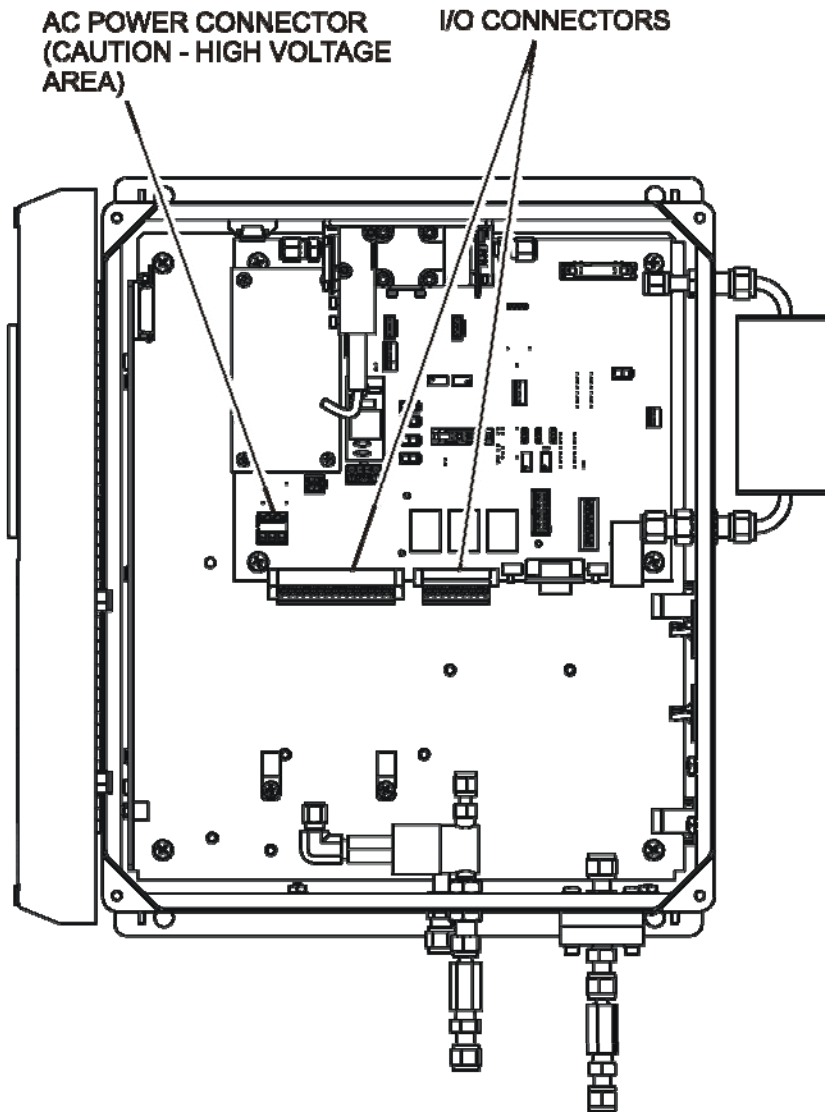

Figure 4-6: NEMA Electrical I/O Connections
2. Attach the leads of the power line to the AC power connector (see Figure 4-6).
In the NEMA configuration of the 465H, the I/O connectors are located internally in the instrument. See Figure 4-6 for their location. Connection to these terminals is usually made via a conduit connection to the NEMA enclosure. A standard conduit penetration may be added to one of the walls of the enclosure for this purpose, or the existing penetration may be used.